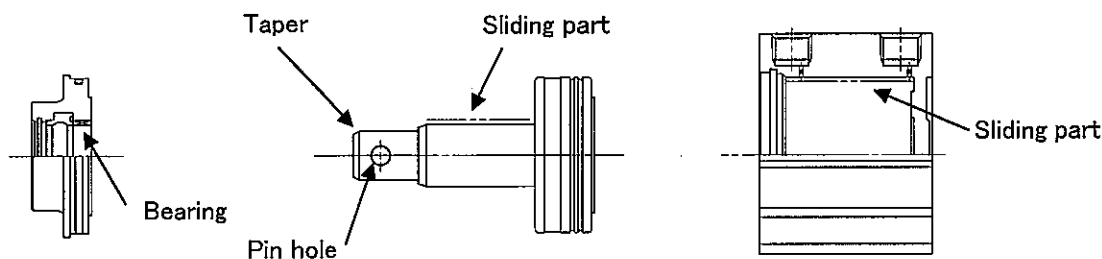

Fig. 7-24
Spread over the grease entirely. (Fig. 7-24)
- (1) Insert the piston rod into the collar. (Fig. 7-24)
- (2) Insert the piston and collar into the tube. (Fig. 7-24)